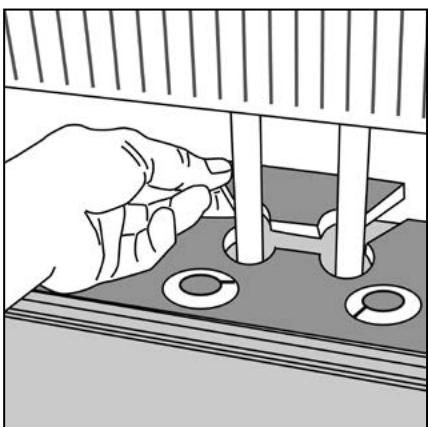

Figure 21 Radiator pipes
- Leave this in place until the glue has hardened (Fig 21 overleaf).